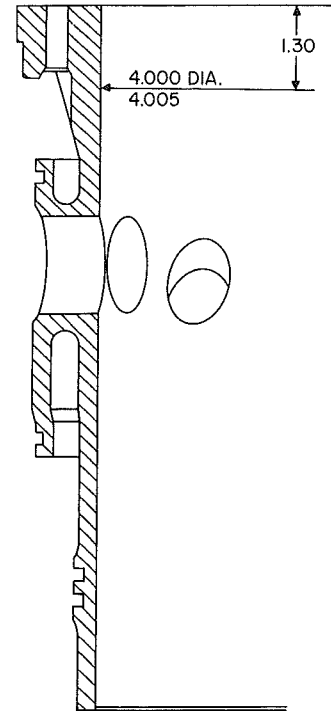

FIG. 28—CYLINDER SLEEVE BORE CHECK POINT
m.] at a point 1.3" [3,3 cm.] below the top as shown in Fig. 28.